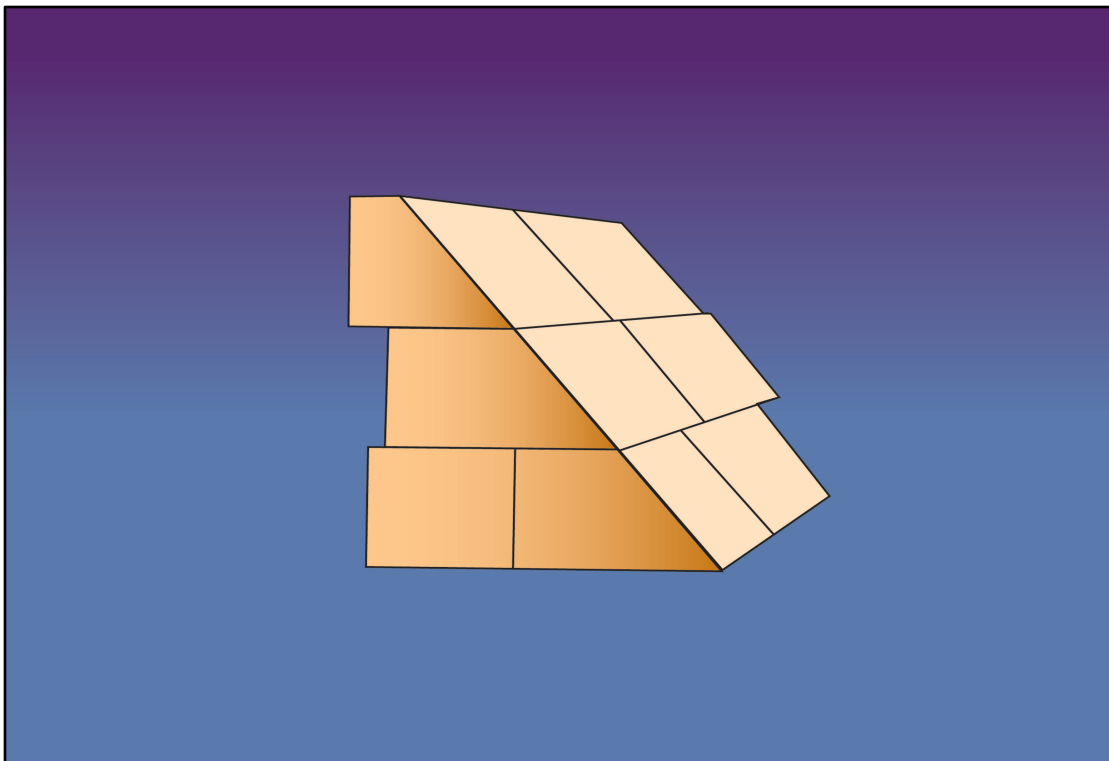

Figure 4. Polished casing stones
- The white casing stones weighed between 16-20 tons each, were flat with a sloping front and with a mean variation of 1/100 inch (.010) over an area of 35-square feet (size of each block). Fitted together, the blocks maintained a gap of 0 to 1/50 inch (.020) that is comparable to the thickness of a fingernail (Figure 4). Modern quarries typically maintain tolerances of about ¼-inch